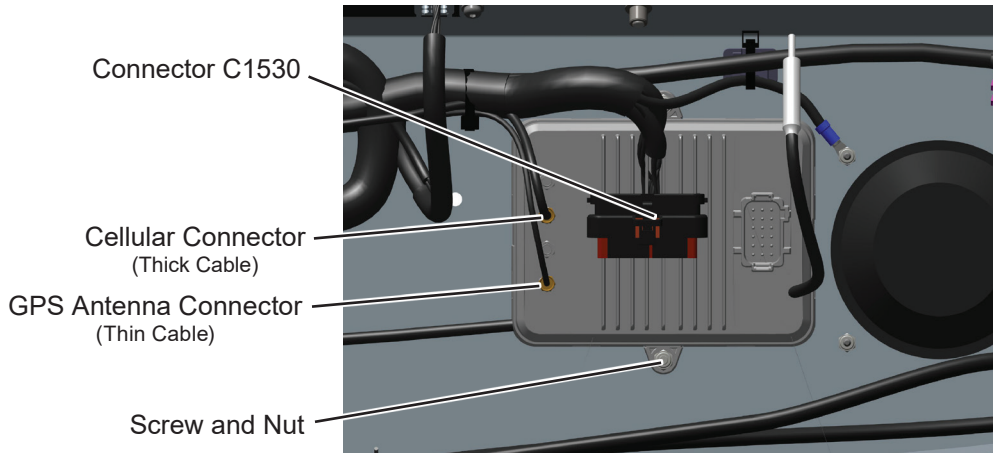

Figure 3
6. Disconnect connector C1530 from TCU. See Figure 3.
7. Loosen and remove cellular and GPS antenna from TCU. See Figure 3.
8. Loosen and remove screws and nuts securing TCU to overhead console. See Figure 3. Save screws and nuts for TCU reinstallation.